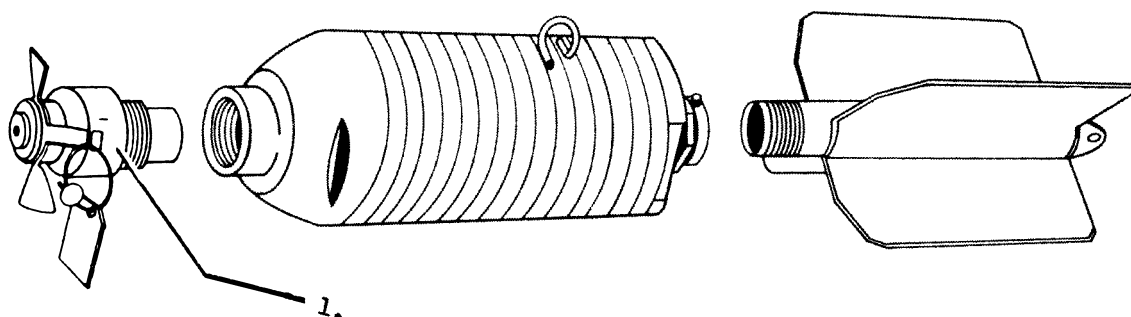

Figure 2-9. Bomb, Fragmentation, 20-1b, M 41
- 1-25. Type: Fragmentation Cluster, M1A1, 100-lb (reference figures 2-9 and 2-10)
- (1) OD bomb body
- (2) Yellow band
- (3) Black markings